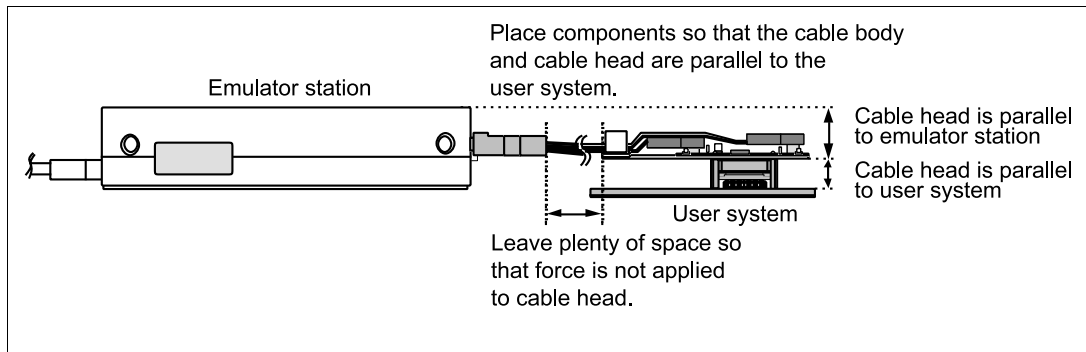

Figure 9 User System Interface Cable Location Example
5. While the emulator station is connected to the user system with the user system interface cable, force must not be applied to the cable head. Place the emulator station, user system interface cable, and user system as shown in the example in figure 9.